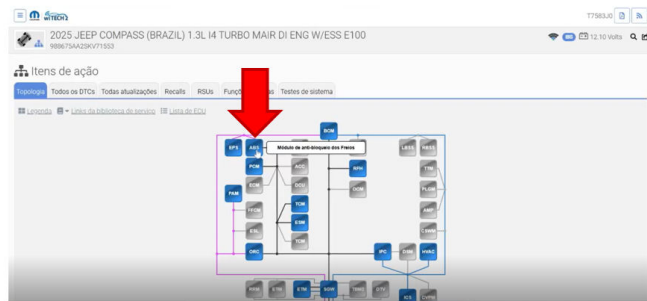

Fig. 1
3. Select the VIN and vehicle model, go to the topology, and select the ABS module Fig. 1.